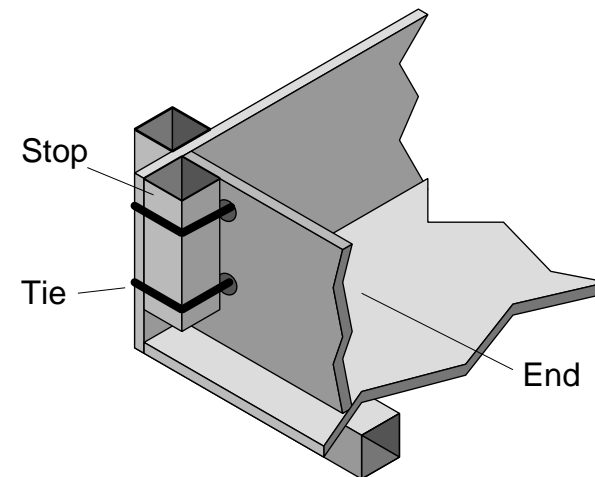

Figure 8: method of fixing tray ends with rubber or rope
6) If you want to make it so that the ends of the load tray can be removed easily you can do so in the way we have shown in Figure 8. This is a good way because it is cheap and very easily repairable.